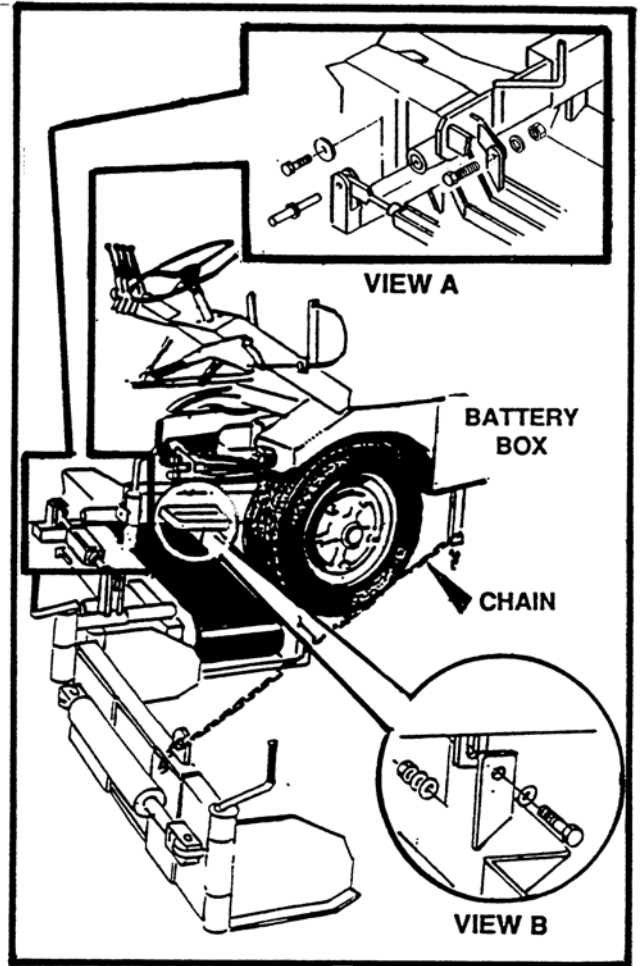

FIGURE 23
1. Find working angle of strike off assembly and attach the chain to the bracket under battery box. See figure 23.